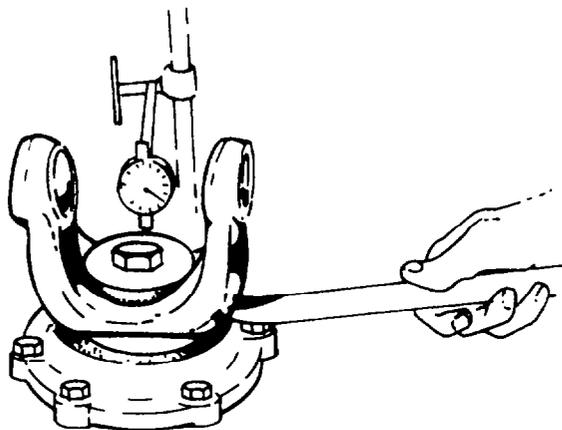

Fig. 256 — Measuring Mainshaft Bearing End-Play
- y. Install a dial indicator so that the spindle contacts the mainshaft drive yoke retaining bolt. Check that the mainshaft bearing end-play is within 0.178 - 0.254 mm (0.007 - 0.010 in.) (see fig. 256). If the end-play is not within these limits, add shims to increase or remove shim to decrease end-play. (Shims are located between the rear end-plate and the rear bearing cover.)